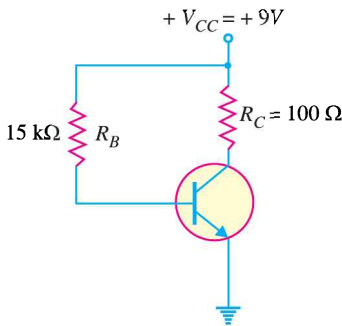

Fig. 9.54
12. The base bias circuit in Fig. 9.54 is subjected to a temperature variation from 0°C to 70°C . The β decreases by 50% at 0°C and increases by 75% at 70°C from its normal value of 110 at 25°C . What are the changes in I_C and V_{CE} over the temperature range of 0°C to 70°C ? [$I_C = 59.6\text{ mA}$; $V_{CE} = 5.96\text{V}$]